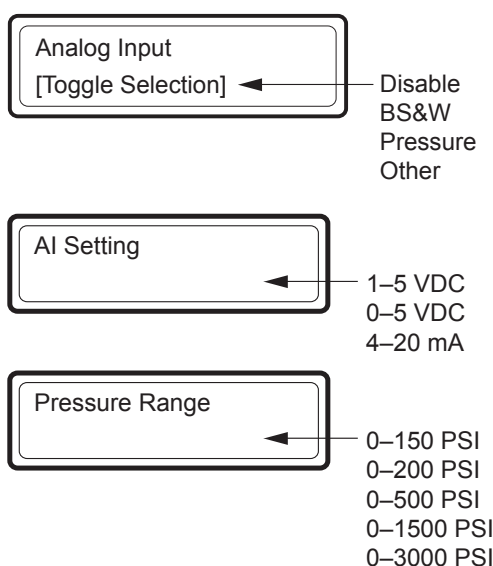

Figure 4.6—Configuration menu for pressure input
2. Press INCREMENT and ENTER buttons simultaneously, then release to enter the configuration menu (Figure 4.6).